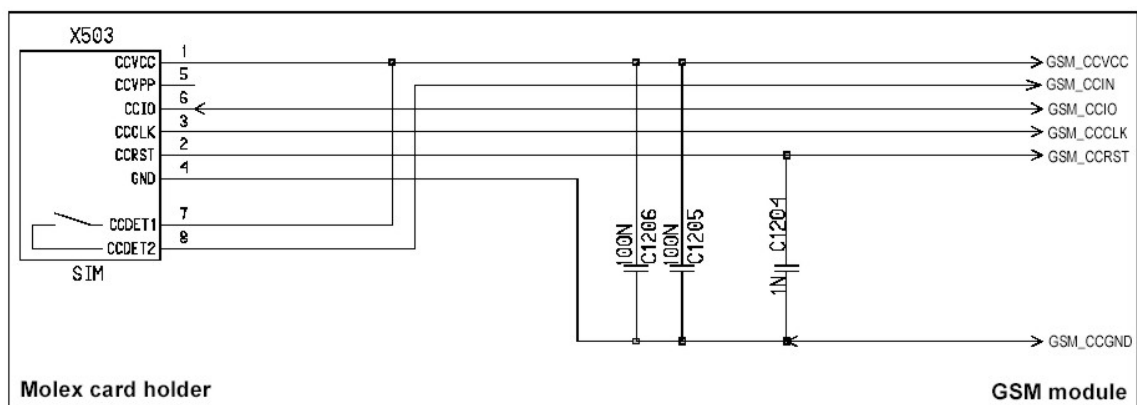

Figure 23: SIM card holder
- b) If, during start-up of XF55-AVL, the GSM_CCIN signal is low, the module will also attempt to initialize the SIM card. In this case, the initialization will only be successful when the card is present. If the SIM card initialization has been done, but the card is no more operational or removed, then the module will never search again for a SIM card and only emergency calls can be made. Removing and inserting the SIM card during operation requires the software to be reinitialized. Therefore, after reinserting the SIM card it is necessary to restart XF55-AVL. It is strongly recommended to connect the contacts of the SIM card detect switch to the GSM_CCIN input and to the GSM_CCVCC output of the module as illustrated in the sample diagram in figure 23 below.